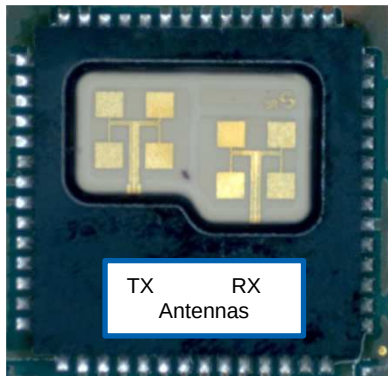

Figure 2-1: Integrated radar chip
This chip has one integrated transmitting patch antenna (TX) and one integrated receiving patch antenna (RX) (see Figure 2-1).